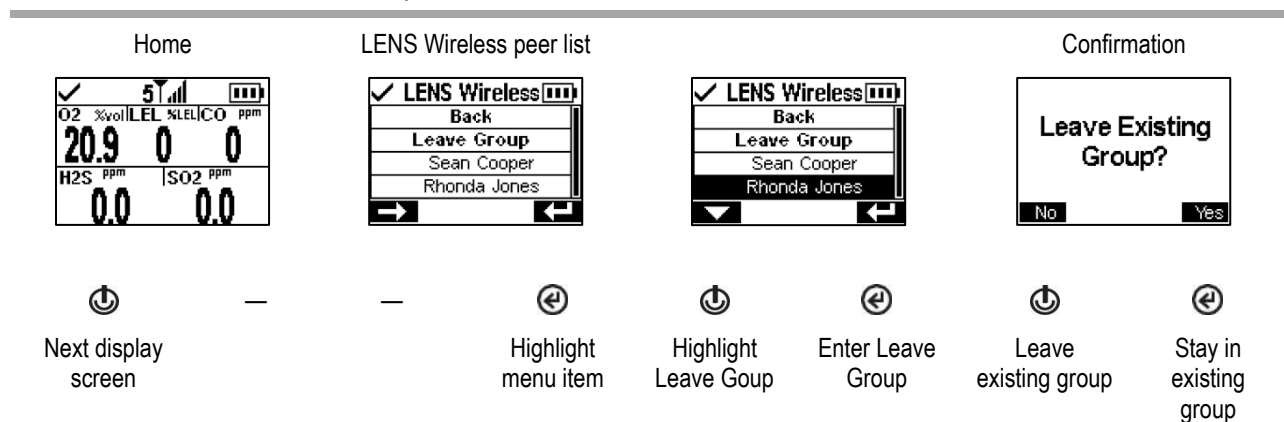

Figure 5.7 Leave a LENS Wireless group
- The operator accesses the instrument's LENS Wireless options and chooses the "Leave Group" option (see Figure 5.7).